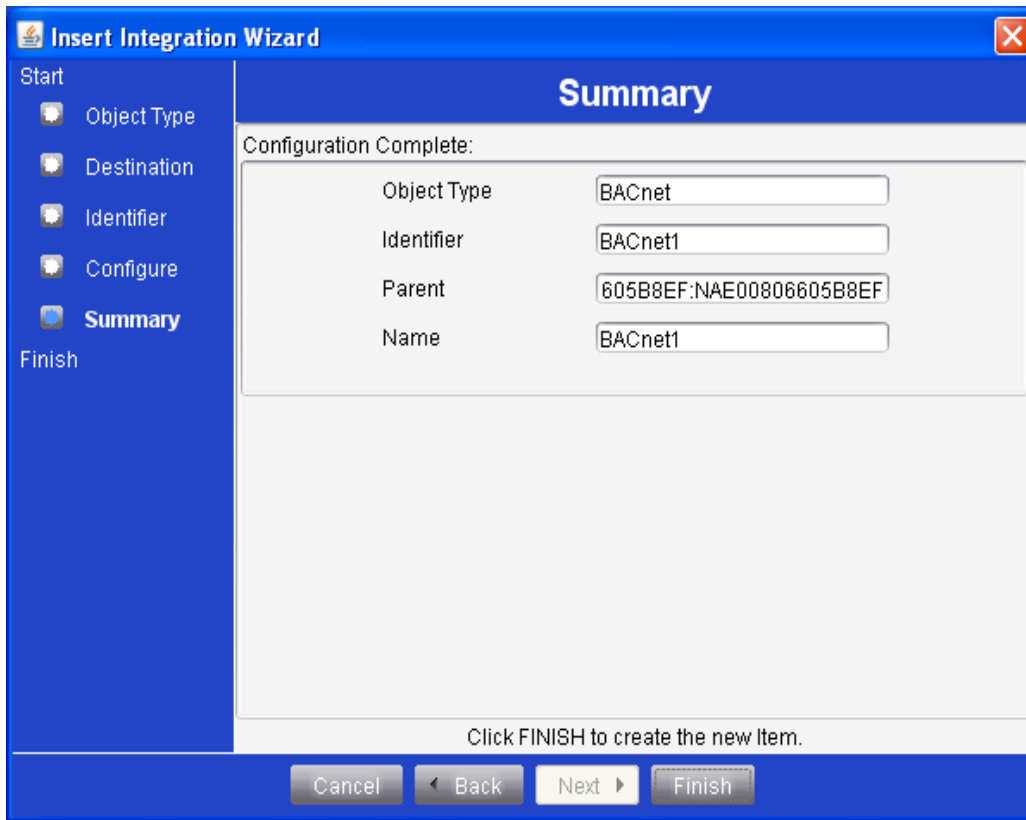

Figure 26: Insert Integration Wizard - Summary Screen
7. Click **Next** to open the **Insert Integration Wizard - Summary** screen (Figure 26).
8. Review the **Summary** screen values (Figure 26):
- Click **Back** to go to a previous screen and edit a value (Figure 26).
- Click **Finish** to save the displayed values (Figure 26).